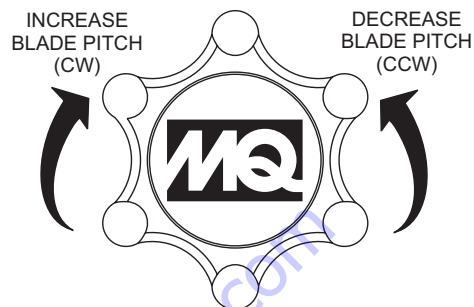

Figure 11. Blade Pitch Cable Adjustment (Standard Handle)
1. For trowels equipped with a **standard** handle, turn the star wheel **counterclockwise** to release tension on the blade pitch cable. See Figure 11.